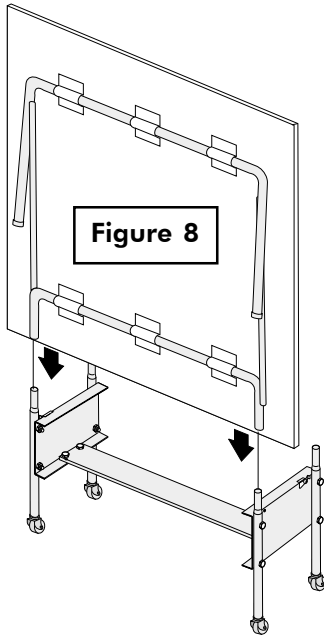

Figure 8
19. With two adults, attach table top (#1) to table base, as shown in Figure 8. With at least one adult on each side of table top, lift top and align ends of "U"-support tube with top of upright tubes. Slide tubes together.